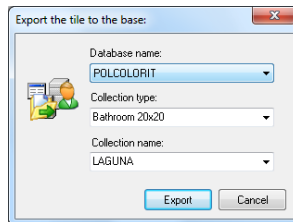

Fig. 212– exporting a tile to the User Database
- **Export the tile to User Database** – exports the selected tile from the other base collection to the **User Database** (Fig. 212); (also under <Ctrl + E>);